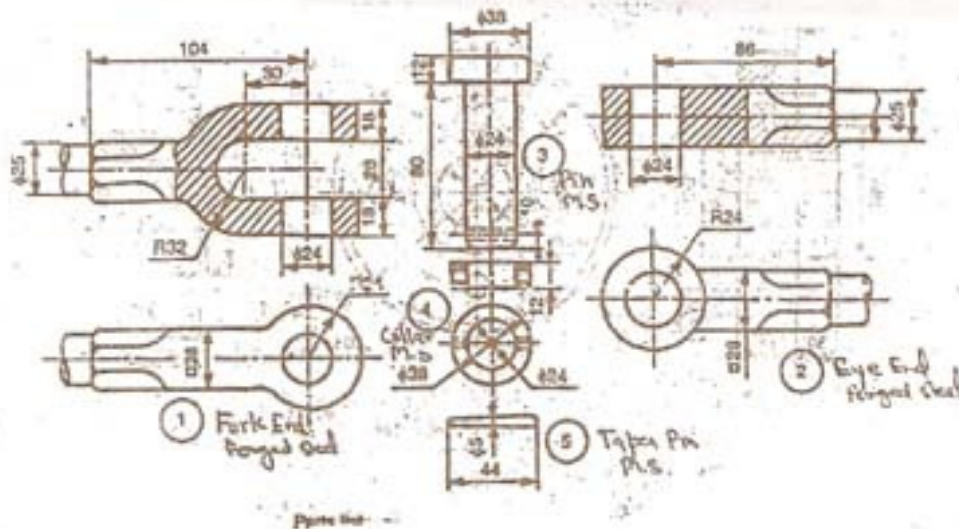

Fig. 3
4. Assemble the parts of a knuckle joint shown in fig. 3 and draw :